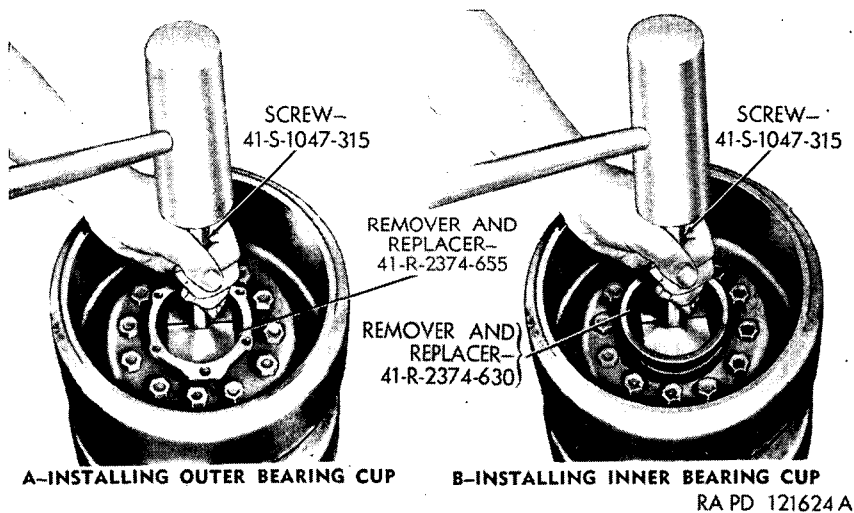

Figure 275. Installing bearing cups in track support roller.
e. **ASSEMBLY.** Install inner bearing cup, using remover and replacer 41-R-2374-630 and screw 41-S-1047-315 (fig. 275). Install outer bearing cup, using remover and replacer 41-R-2374-655 and screw 41-S-1047-315 (fig. 275). Install oil seal guard and new oil seal on bracket (fig. 273) using replacer 41-R-2391-420. Slide inner